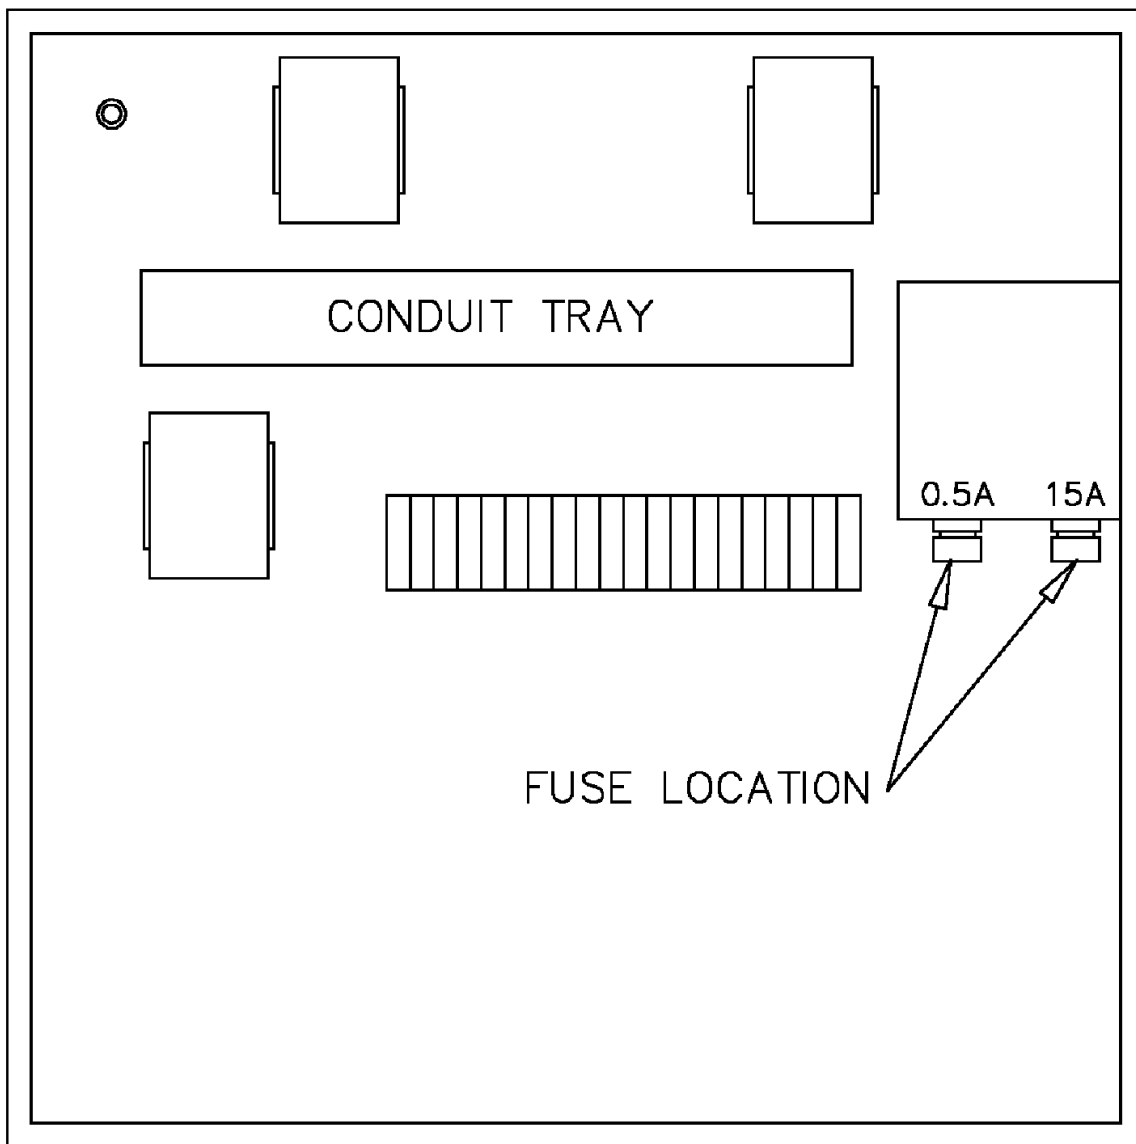

Figure 3. Fuse Location.
- The fuses are located in the control box on the right hand side (See Figure 3).